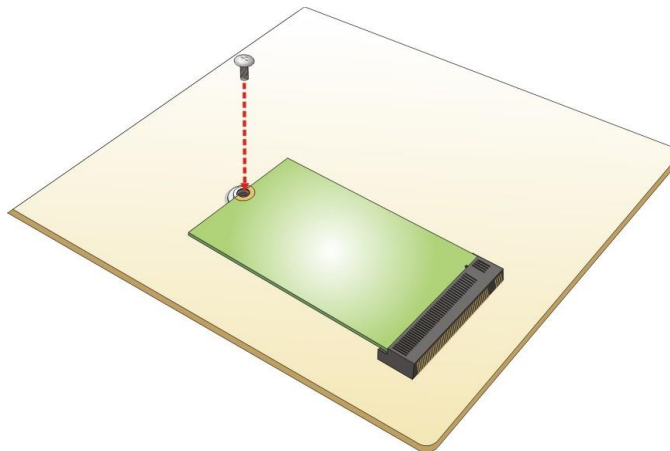

Figure 4-3: Securing The M.2 Module
- Step 4:** Secure the M.2 module with the previously removed retention screw (**Figure 4-3**).